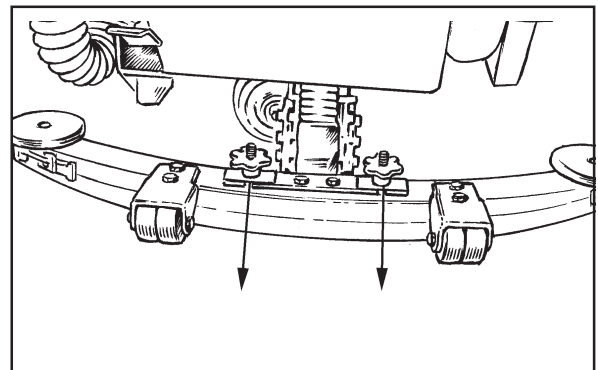

Figure 34
1. Remove the squeegee assembly by loosening the two knobs that attach the squeegee to the machine. Pull the squeegee assembly off. See figure 34.